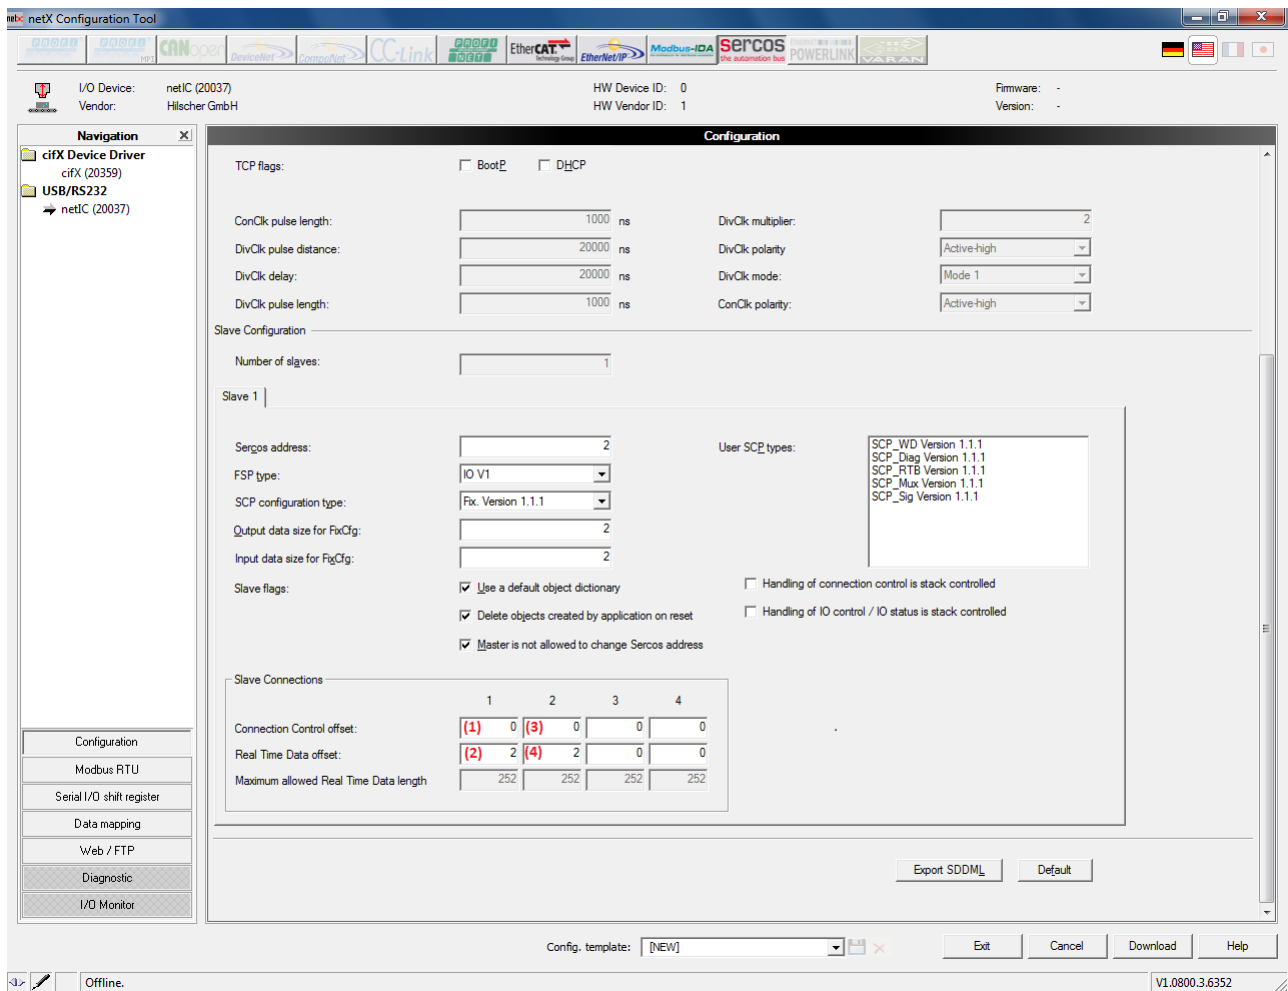

Figure 82: Screen “Configuration” of the netX Configuration Tool (only lower part shown)
- In pane “Slave Connections” set each value at *Real Time Data Process Image Offset* to **2**, see *Figure 82: Screen “Configuration” of the netX Configuration Tool (only lower part shown)*
You can comfortably adjust these parameters using the netX Configuration Tool. Here the parameters are called *Connection Control Offset* (①,③), *Real Time Data Process Image Offset* (②,④) and *Real Time Data Maximum Length* (⑤,⑥). (The position numbers relate to *Figure 82* on page 196.)